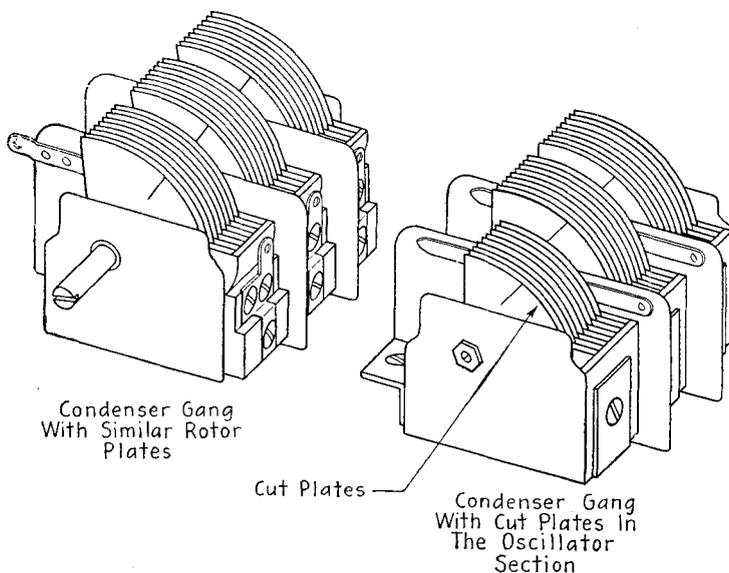

FIG. 14-4. Comparison between condenser gangs with similar rotor plates and with a cut-plate oscillator section.
**Cut-plate oscillator tuning condensers.** In some receivers oscillator tuning condenser  $C-6$  has been designed to maintain the 455-kc difference without a low-frequency padder adjustment. In this case, the rotor plates of condenser  $C-6$  are smaller and differently shaped than the rotor plates of the other condensers in the tuning gang, as shown in Fig. 14-4.